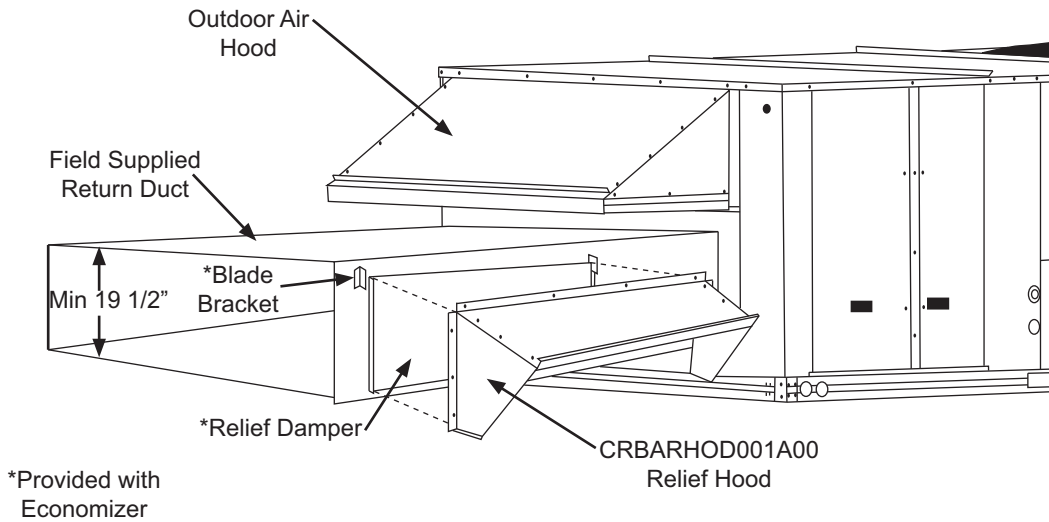

Fig. 3 - Installing CRBARHOD001A00 Over Relief Damper
5. Using the blade brackets, install the relief damper onto the side of the return duct. (See Fig. 3.) The
7. Caulk the backside of the mating flanges to ensure a watertight seal. Install the CRBARHOD001A00 over the relief damper and screw to return duct. (See Fig. 3.)